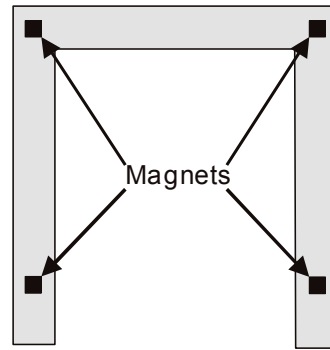

Figure 32
2. The trim is held on by four magnets. These will either be attached to the trim or supplied loose in a separate envelope. Space them as shown in **Figure 32**.